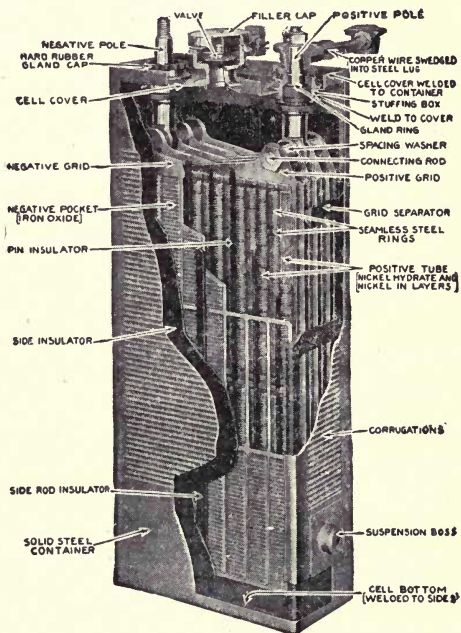

FIG. 76.—One Form of Storage Battery.
**210. Storage Batteries.**—The storage batteries of commerce (Fig. 76) are built up with electrodes composed principally of lead peroxide ( $\text{PbO}_2$ ) as the positive electrode, and sponge lead as the negative electrode. The positive plate is hard, like soapstone, while the spongy lead is so soft that it may be cut by the finger nail. Both plates are immersed in a dilute solution of sulphuric acid. On discharging the battery, the metallic lead, peroxide, and sulphuric acid react forming lead sulphate and water. On charging, the reverse takes place; the lead sulphate forms metallic lead, lead peroxide, and sulphuric acid.